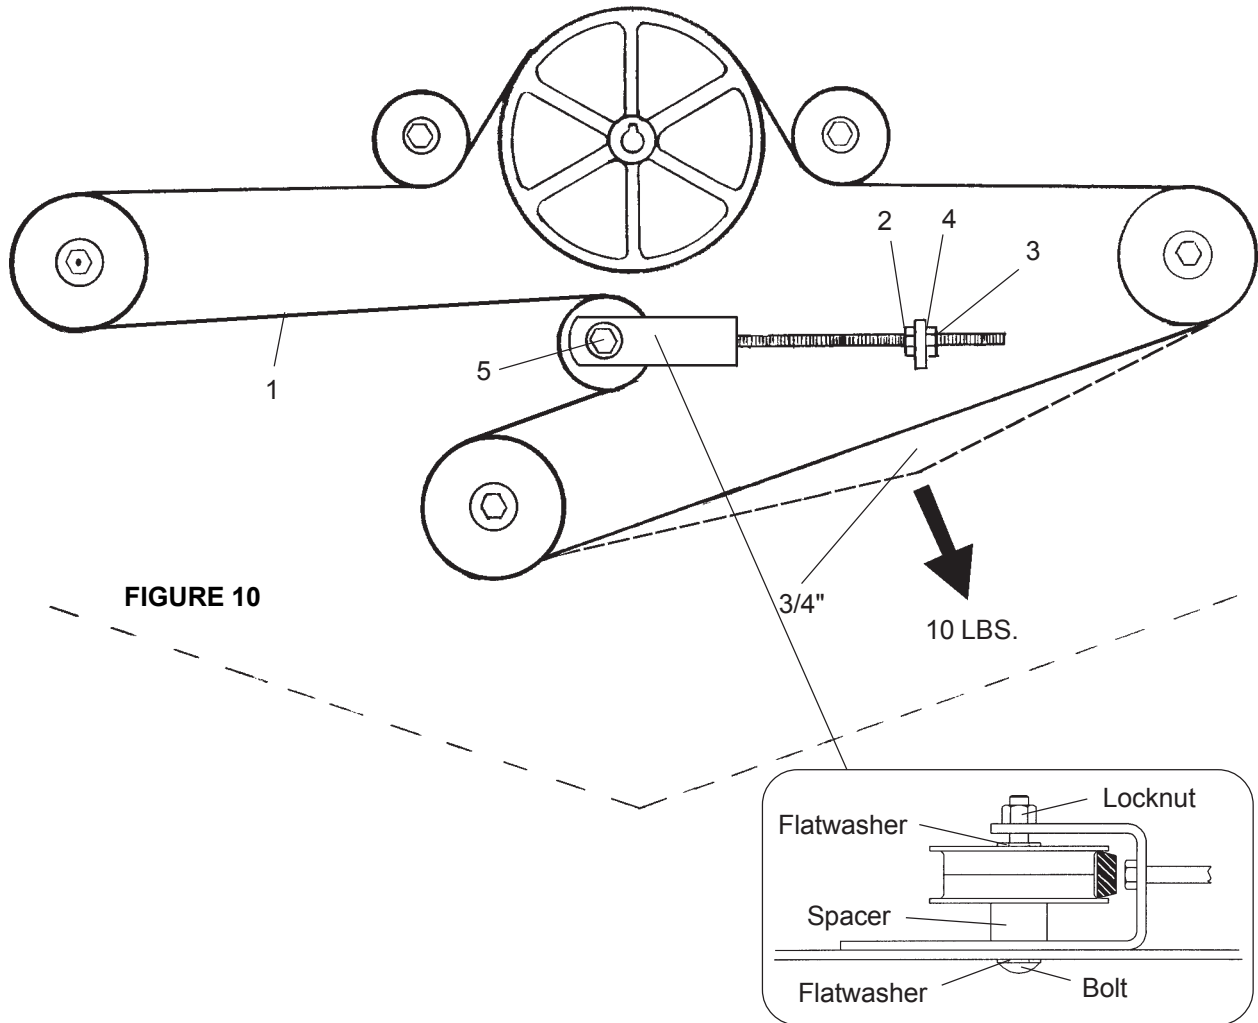

FIGURE 10
Tighten drive belt by loosening nut, items 2 & 5, and turn nut, item 3 against the anchor plate until proper tension is reached. **DO NOT OVERTIGHTEN.** Tighten jam nut, item 4., and nut item 2. And retighten item 5. **FIGURE 10.**